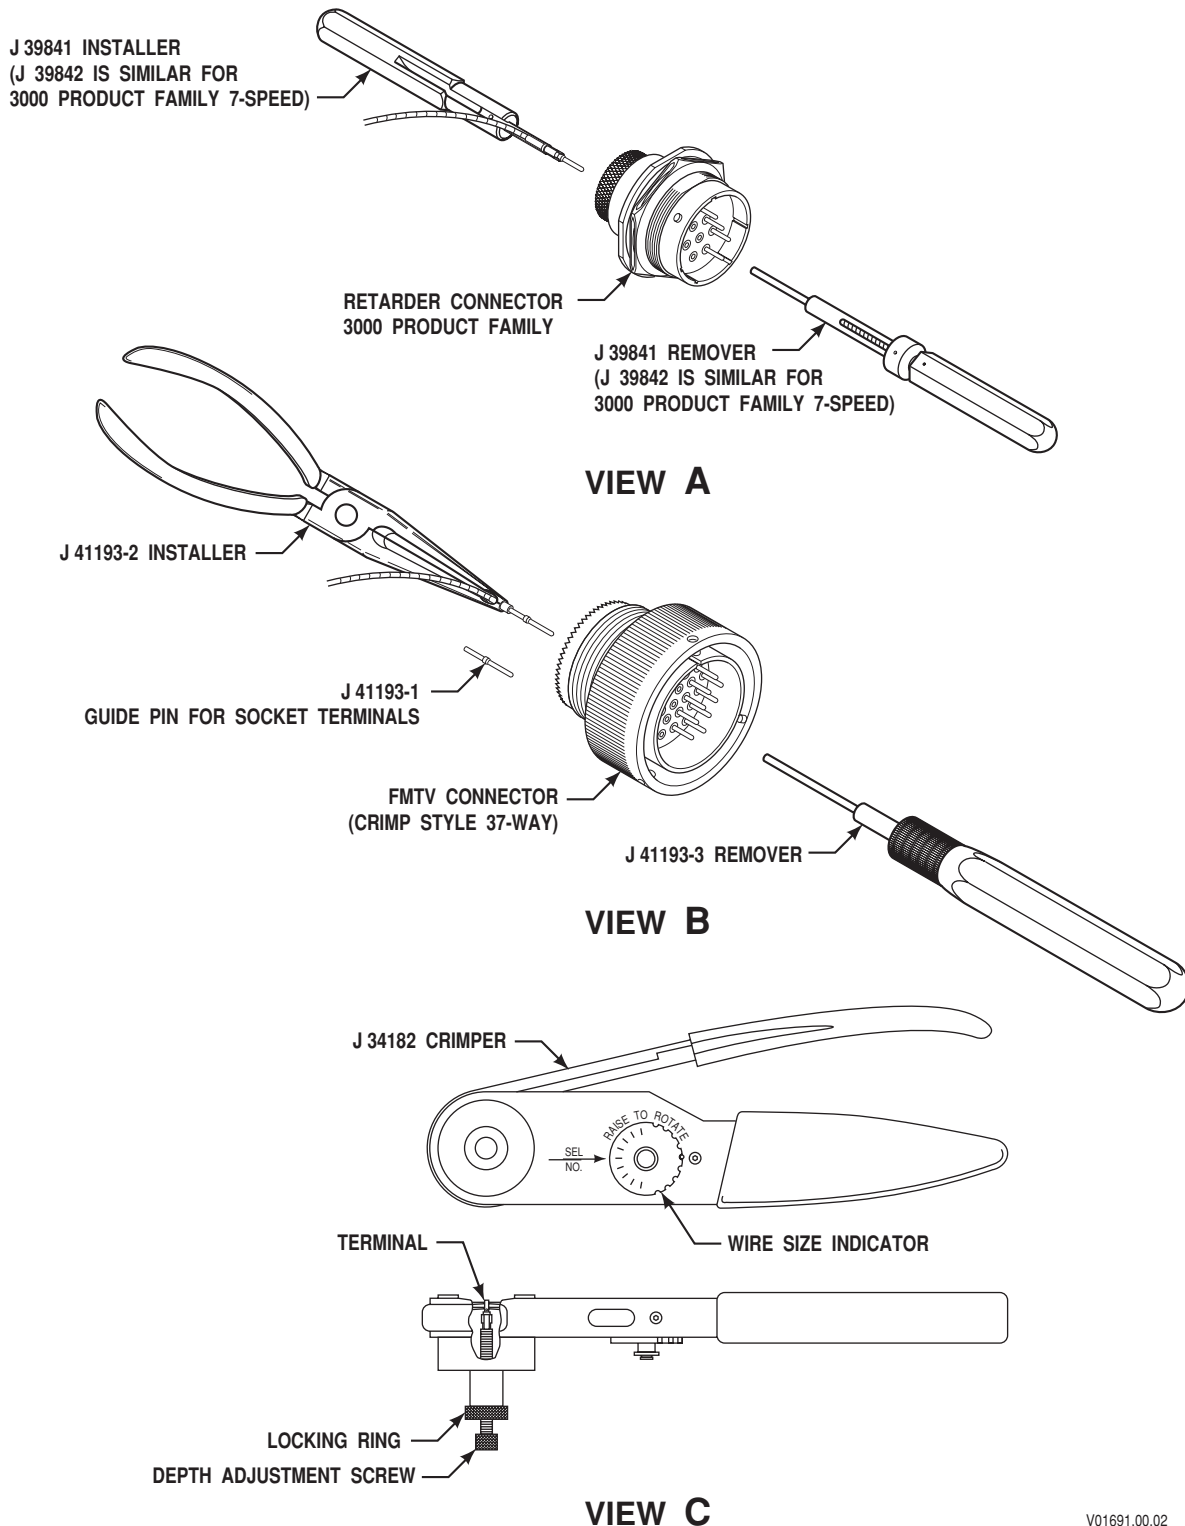

Figure E-11. ITT Cannon Connectors—Crimped (37-Way FMTV Bulkhead; 6-Way Transfer Case; 8-Way 3000 Product Family Retarder)
### C. Terminal Crimping (Figure E-11, View C)
2. Place the terminal and wire in the insertion tool (Figure E-11, View A and B).